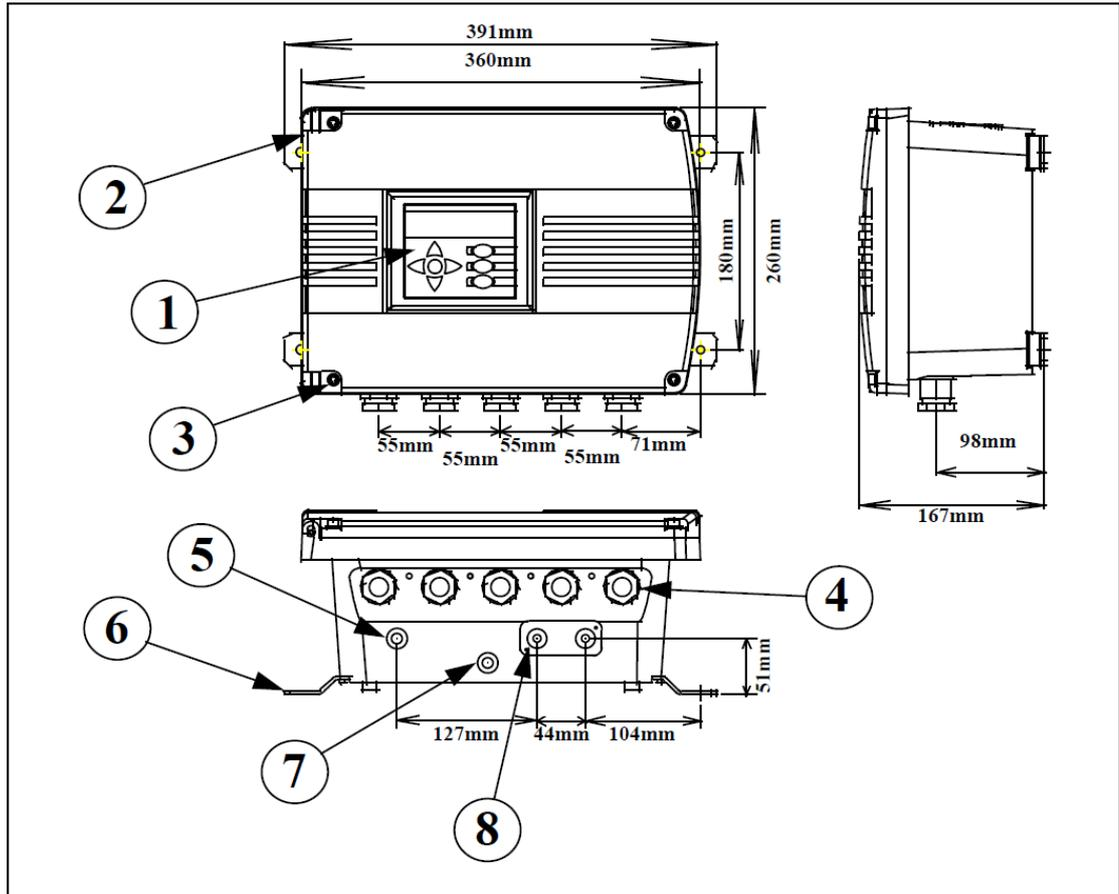

Figure 18. Control unit installation
Refer to Figure 18.
To comply with the European Community EMC Directive the cables connected to the mains supply, relay contact outputs, analogue outputs, and dry contact inputs shall be screened. In addition, the EMC earth terminal on the control unit (Figure 18, item 7) must always be connected to a local EMC earth (ground). The conductor used must not exceed 2m in length.
- Gland entry sizes and positions are shown in Figure 18. Unused entries should be fitted with appropriate blanking plugs.
- Electrical power should be supplied at 100-120V or 220-240V (+10% -10%) 50/60 Hz. To gain access refer to Figure 18. Unscrew the four M6 bolts [3] using a 5mm Allen key and open the control unit door. Ensure that the transformer primary connection (PL6 or PL7 in Figure 16) and the main power fuse rating (F1) are appropriate for the electrical supply voltage (see Table 13).